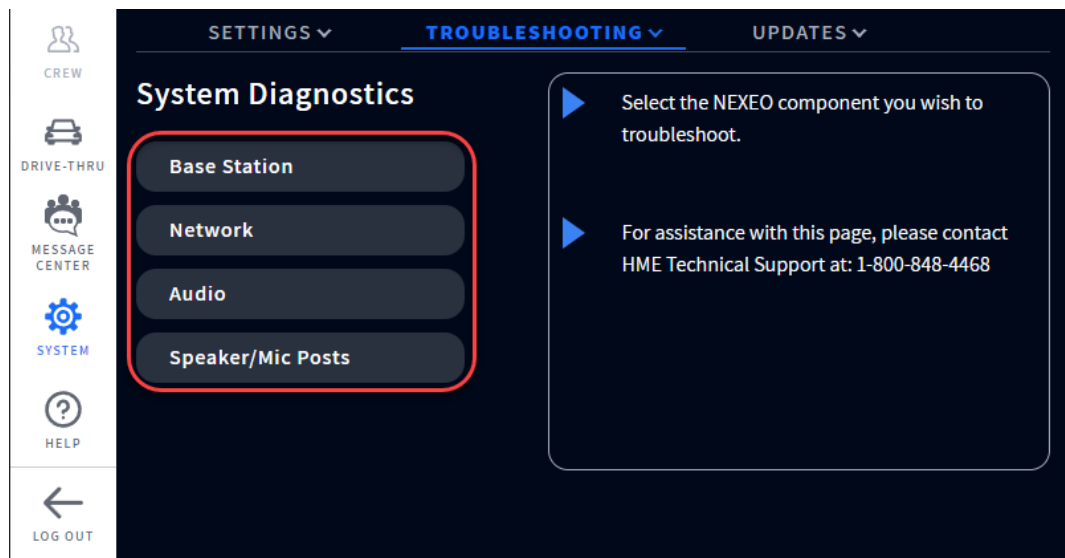

Fig. 14.2
**System Diagnostics continued:** Valuable feedback on the health of each component can be found by clicking on any of the component options listed under System Diagnostics in Fig. 14.2 (i.e., Base Station, Network, Audio, and Speaker/Mic Posts).